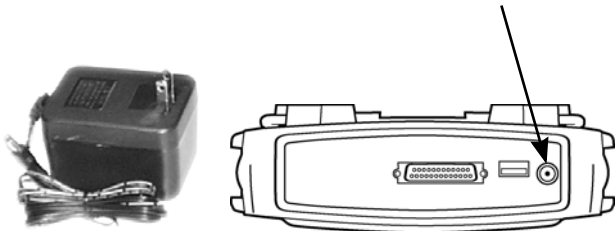

Figure 2.1: Power Adapter and Scan Tool Power Port
- 2 Plug the Battery Charger connector into the External Power Port located on the top of the Scan Tool, see Figure 2.1.